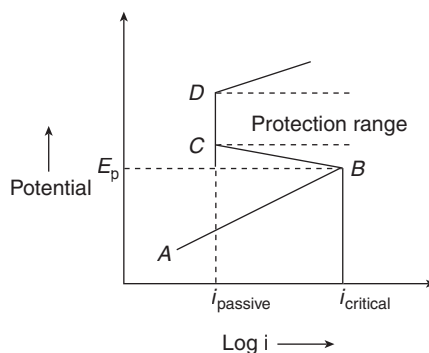

Figure 43 Potential–current curve.
4. **Anodic protection:** The prevention of corrosion by **impressed anodic current method** is called **anodic protection**. Few metals like Ti and alloys like steel, when made as anode exhibit passivity by forming their oxide layers. In case of metals, such as Ti, Ni, Cr and their alloys, application of suitable anodic current makes them passive and decreases their rate of dissolution. The potential required to protect the metal can be obtained from potential–current curve as shown in Figure 43.